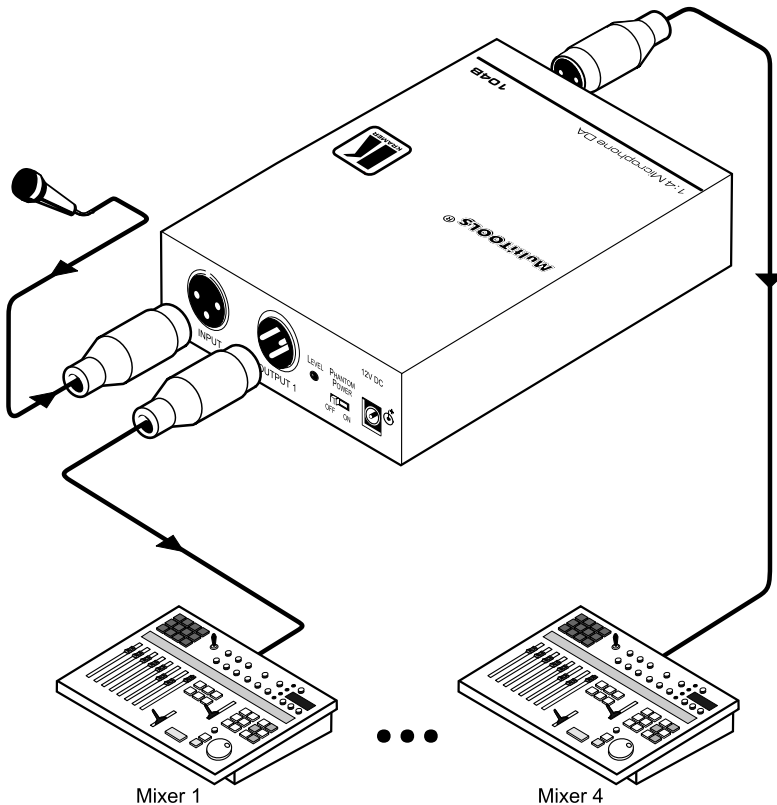

Figure 2: Connecting the 104B 1:4 Microphone DA
To connect your **104B 1:4 Microphone DA**, as the example in Figure 2 illustrates, do the following:
3. Connect the 12V DC power adapter to the power socket and connect the adapter to the mains electricity (not shown in Figure 2).